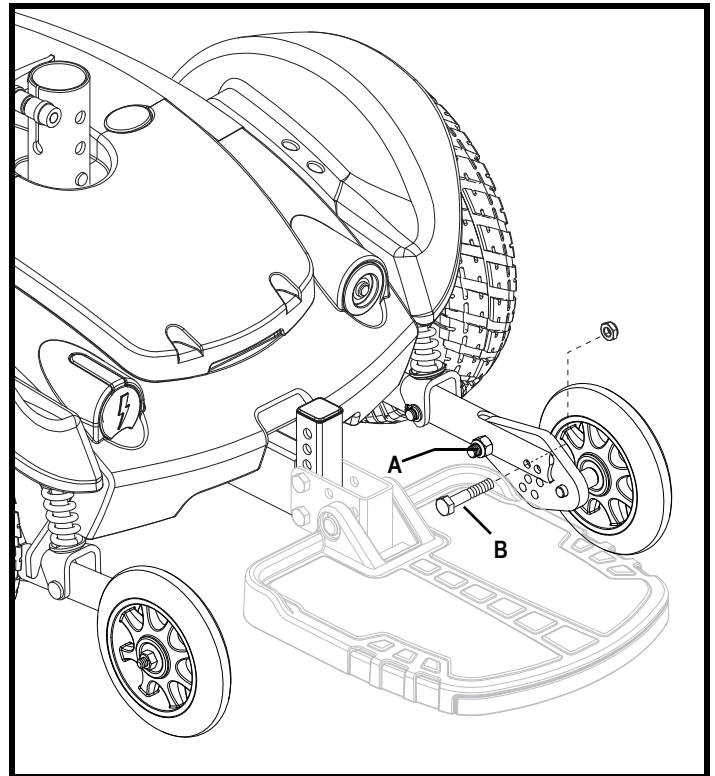

Figure 27. Anti-Tip Wheel Adjustment
1. Loosen nut A. See figure 27.